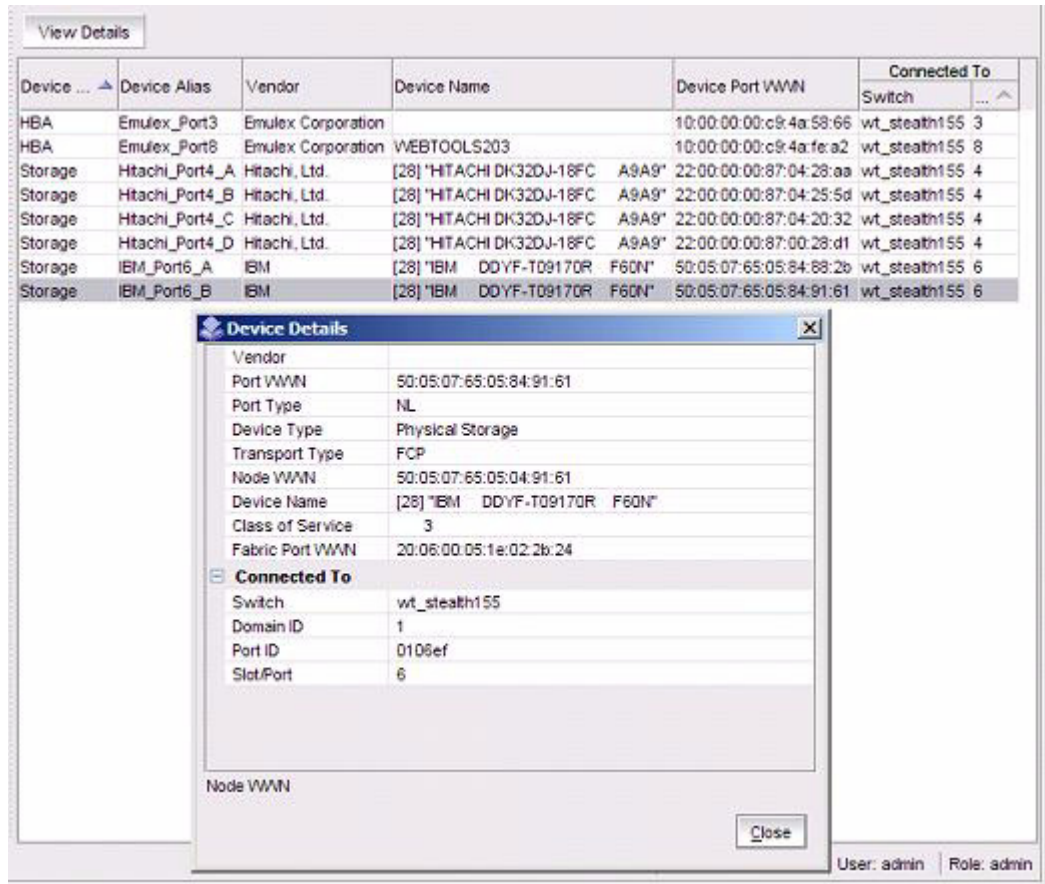

FIGURE 36 Detailed Device information
3. Click **View Details** located at the top of the page. Figure 36 shows a **Device Details** example.